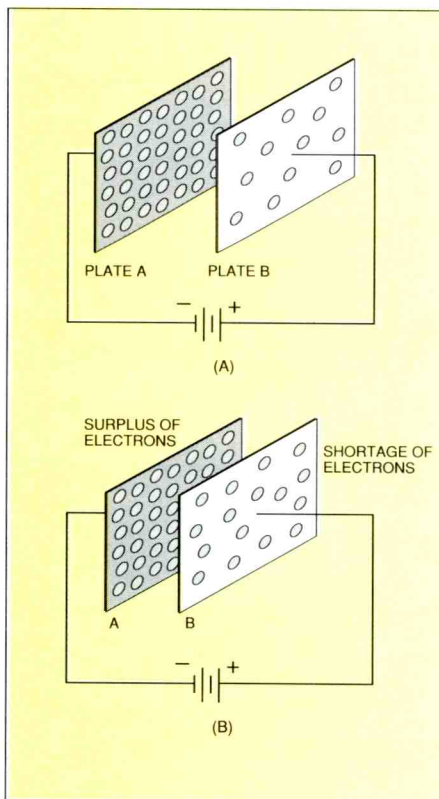
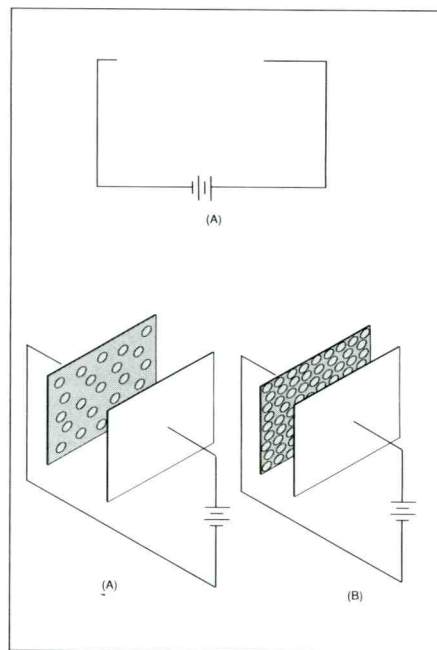

Figure 1
Figure 2
Three factors determine capacitance: the area of the plates, the spacing between them, and the dielectric that separates the two. Take a look at Figure 1. Which capacitor has the greater capacitance? Obviously, the capacitor in (B) has the greater capacitance because it has the larger plates. Now look at Figure 2. Which has the greater capacitance? Again, the one depicted in (B) because its plates are closer together than the plates of (A).